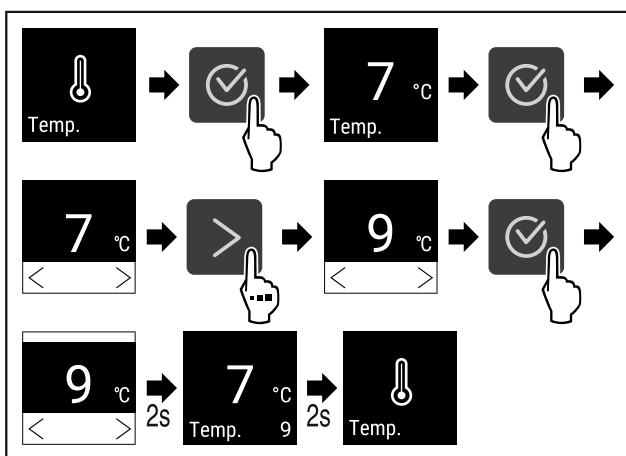

Fig. 66 Changing temperature from 7°C to 9°C
- ▶ Carry out steps (see Fig. 66).